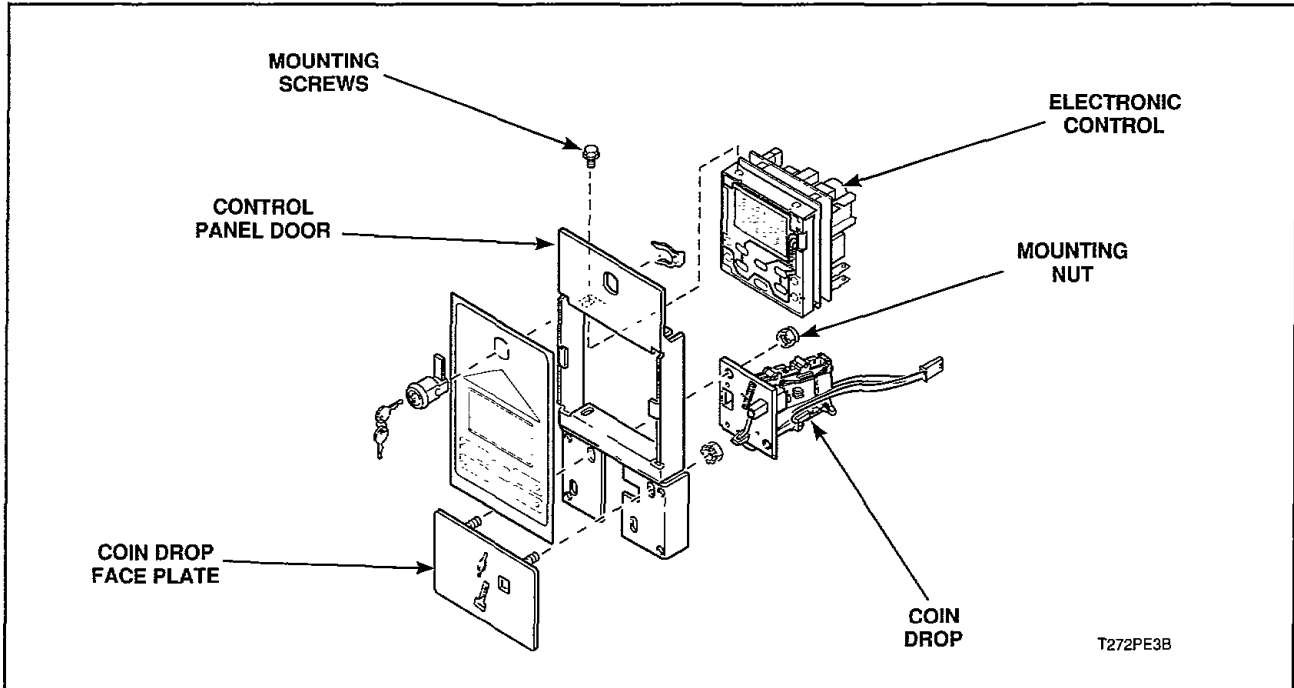

Figure 7
- Unlock and remove electronic control door, *Figure 7*.
- Pull electronic control out of control panel door and disconnect electronic control quick disconnect blocks, *Figure 7*.
9. COIN DROP ASSEMBLY (Figure 7)